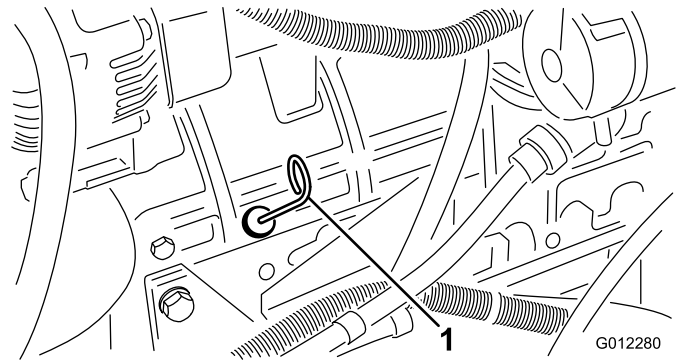

Figure 10
3. Remove the dipstick, wipe it clean, and install it (Figure 10).